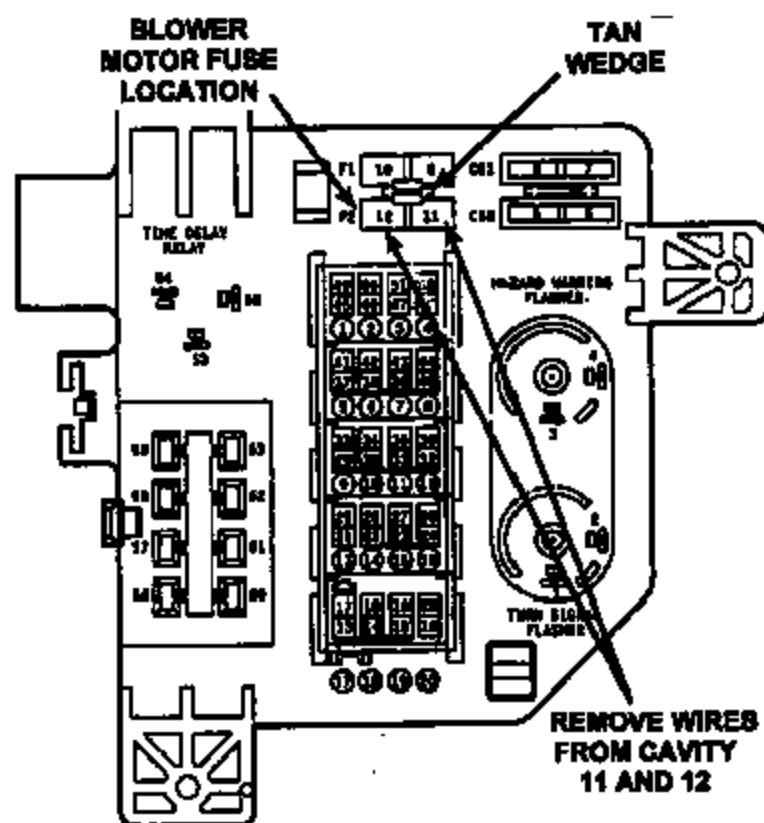

Figure 13
1. Remove the 30-amp fuse from the fuseblock F2 -- Blower Motor location (Figure 13).
2. Remove the TAN wedge from the fuseblock (Figure 13).
3. Remove the BLACK with ORANGE tracer (A22) wire from cavity 11 of the fuseblock (Figure 13); then cut the terminal off and tape the wire back to the harness.
4. Remove the DARK GREEN (C1) wire from cavity 12 of the fuseblock (Figure 13).
27. Install the TAN fuseblock wedge (Figure 13).
28. Reinstall the 30-amp fuse in the fuseblock F2 – Blower Motor location (Figure 13).